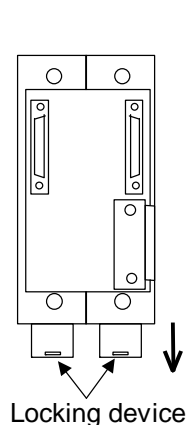

Figure 1
2. Pull down both locking devices at the bottom of the mother block. (Figure 1)
1. Place the module mainframe opening on top of the mother block tab. (Figure 1)